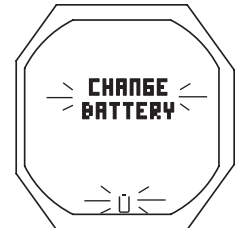

Fig. 2 - LOW BATT ALARM
- Low Battery icon (shell only with no inner bar) flashes for 5 seconds and operation reverts to Watch Time with Compass allowed (view only) until the Battery is changed or voltage cannot sustain operation, then the graphic CHANGE BATTERY flashes (Fig. 2) until the Battery is changed or voltage drops to the level at which operation cannot be maintained.